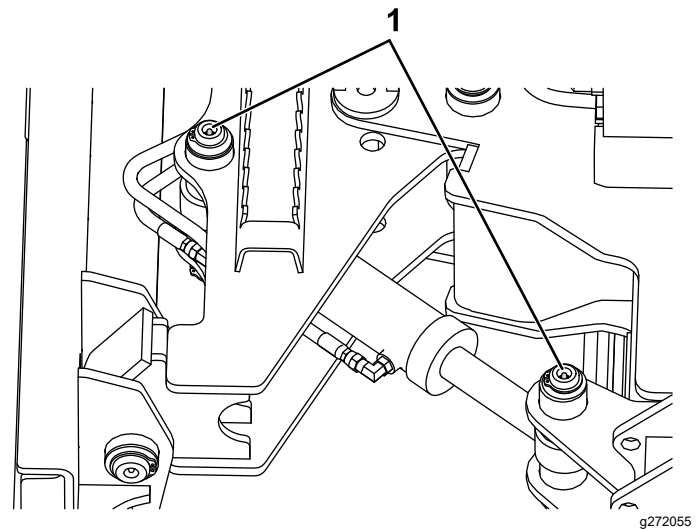

Figure 9
4. Connect a grease gun to the hydraulic angle hinge pin grease fittings (Figure 9).